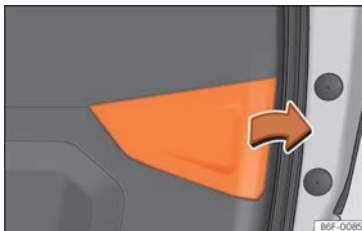

Fig. 59 Rear lid open: remove the cover.
- Remove the rear lid cover in the direction indicated »» Fig. 59.